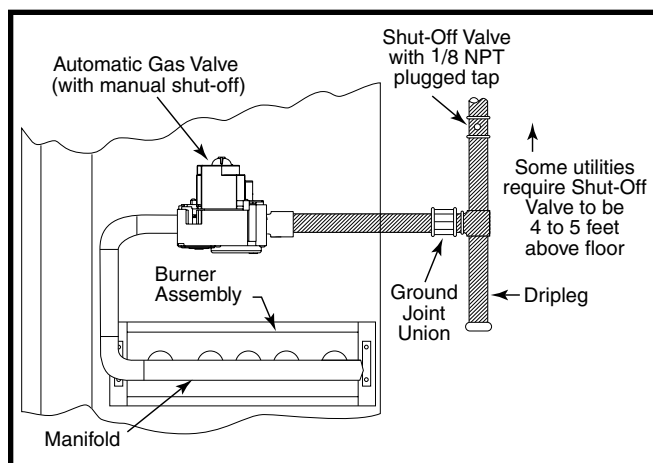

Figure 10. Typical Gas Hookup - Right Side Entry
- Some local codes require the installation of a manual main shut-off valve and ground joint union external to the furnace as shown in Figure 10. The shut-off valve should be readily accessible for service and/or emergency use. Consult the local utility or gas supplier for additional requirements regarding placement of the manual main gas shut-off.
- A drip leg should be installed in the vertical pipe run to the unit (Figure 10).
This unit only has right side gas entry. When connecting the gas, provide clearance between the gas supply line and the entry hole in the unit's casing to avoid unwanted noise and/or damage to the unit. A typical gas service hookup is shown in Figure 10.